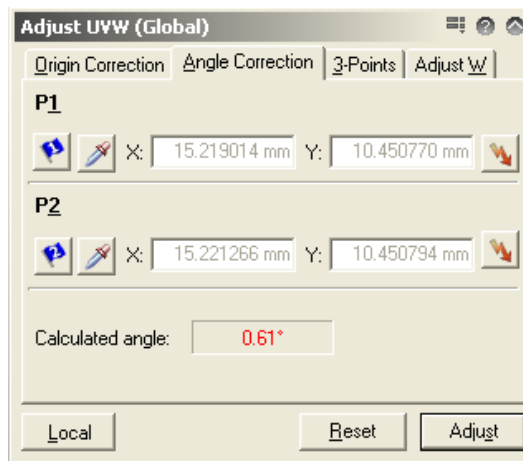

Figure 17: Angle Correction of UVW correction
- At this stage you may want to align the U-axis with the horizontal edge of your wafer. This can facilitate finding structures on your sample. You can do this with a Angle Correction in the Adjust UVW tab (see figure 17). To do this, drive the stage to two points P1 and P2 along a horizontal edge of your sample. (The further apart they the more precise the alignment). At the left most point use the ‘pipette’ button below P1 to read in the first X,Y coordinates. At the right most point use the ‘pipette’ button below P2 to read in the second X,Y coordinates. A correction angle is thus calculated. If you press ‘Adjust’ it will correct the UV coordinate system, so that the U-axis is then parallel to the line connecting P1 and P2. To align with existing structures on your sample you can use the more advanced 3-point alignment (please refer to the manual). ‘Adjust W’ Can be used to correct the working distance at all places on your wafer, if its surface is not completely parallel with the XY plane (i.e. the sample is not in focus at all places with the same working distance setting). (Again, please refer to the manual for this.) Also note that there are two different UVW coordinate systems - global and local - for now just use the global one. Again, to learn how to use the local one, refer to the manual.